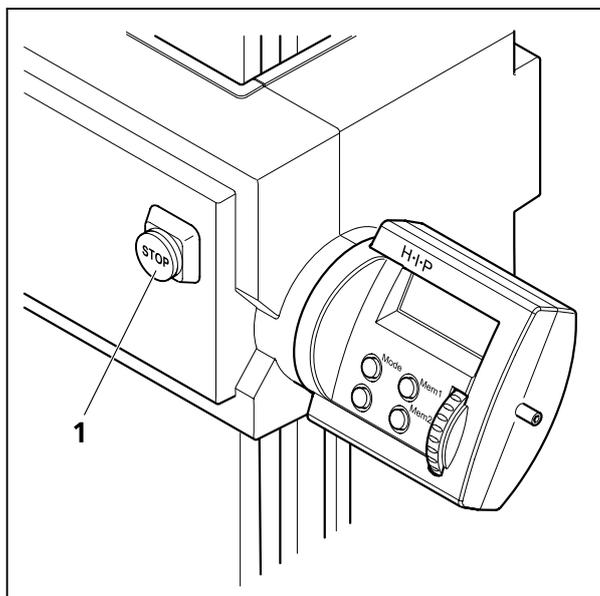

Fig. 38 STOP button
- Push in the STOP button (Fig. 38/1) to switch off the focusing drive.